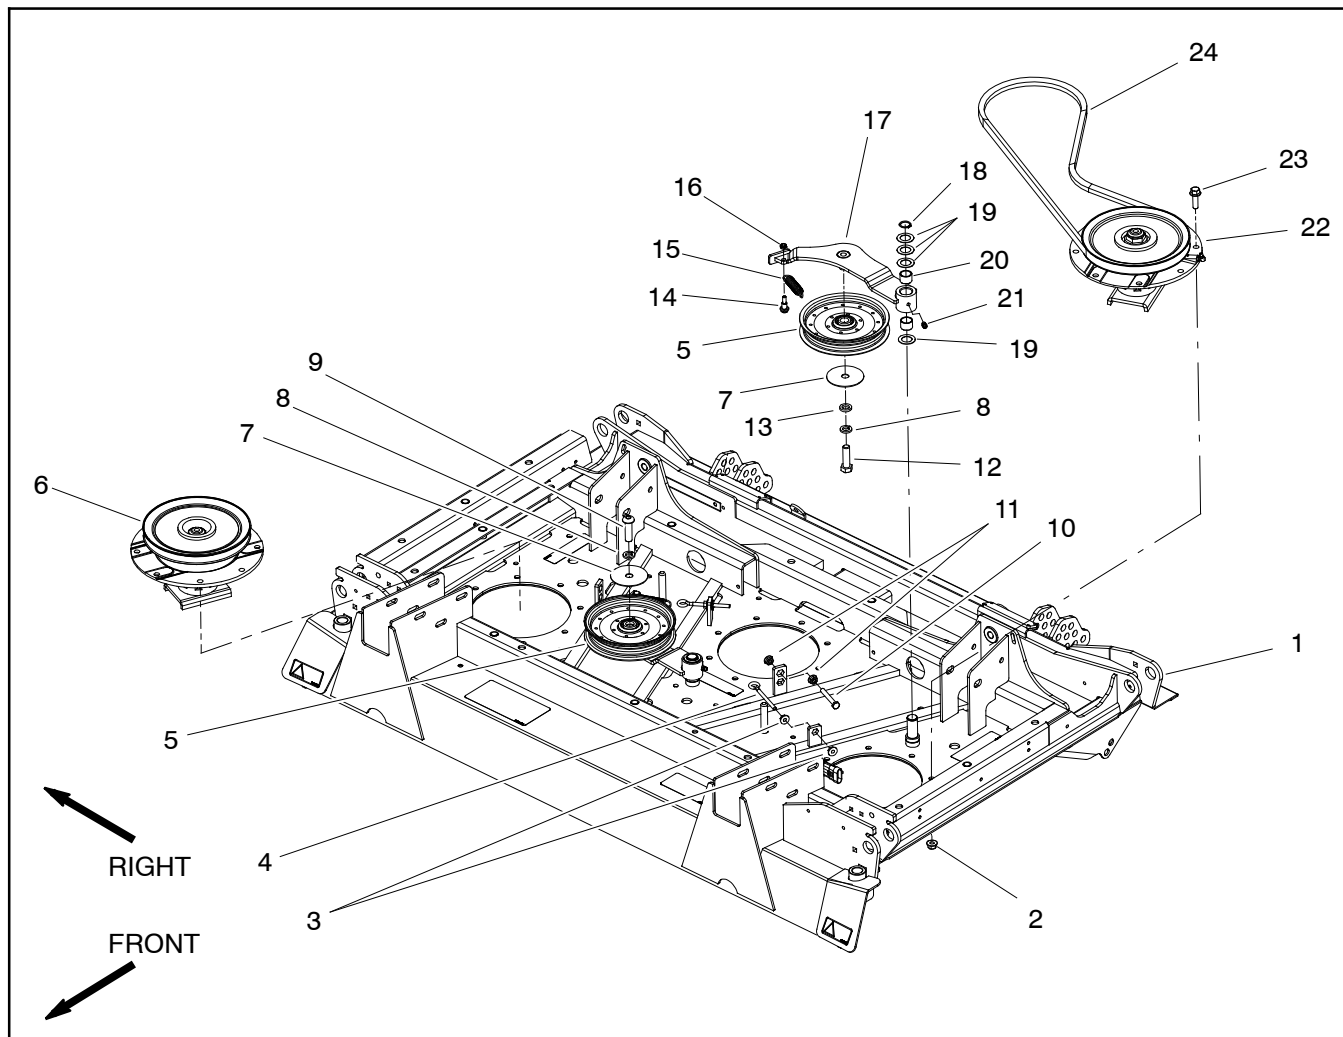
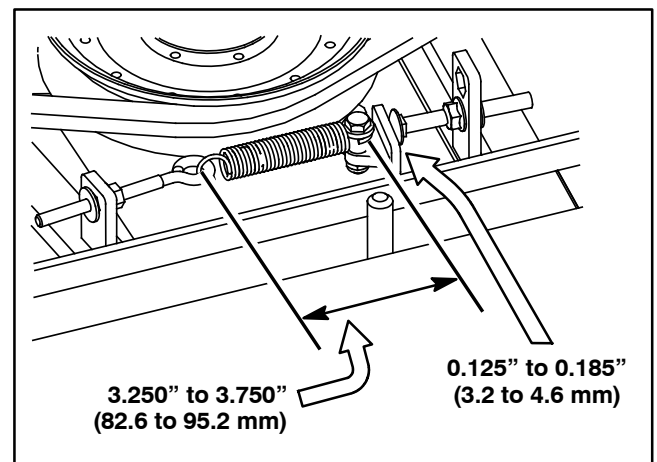

Figure 20
Figure 21
NOTE: The center deck is shown in Figure 20. The idler assemblies used on the wing decks use the same idler components.
Removal (Fig. 20)
3. Use spring hook tool to unhook the idler spring (item 15) from the adjusting screw (item 4).
5. Loosen flange nuts (item 11) that secure idler stop bolt (item 10) to cutting deck to allow clearance between idler arm and stop bolt.
6. Remove idler components as needed using Figure 20 as a guide. Note location of washers, idler spacer and screw as idler assemblies are being removed.
Installation (Fig. 20)
1. Install removed idler components using Figure 20 as a guide.
- A. Make sure that one (1) thrust washer (item 19) is placed below the idler arm and three (3) thrust washers are placed between the idler and retaining ring location.
- C. If idler stop bolt (item 10) was removed from deck, make sure that it is installed in the hole that allows the stop bolt head to align with the idler arm.
3. Use spring hook tool to attach the idler spring (item 15) onto the adjusting screw (item 4) and shoulder bolt on idler arm. With the idler arm tensioning the drive belt, the spring hook to hook length should be from **3.250" to 3.750" (82.6 to 95.2 mm)** (Fig. 21). If necessary, disconnect spring and change position of adjusting screw. When idler spring is the correct length, tighten second flange nut to secure adjustment.
4. Adjust location of idler stop bolt (item 10) so that the clearance between idler arm and idler stop bolt head is from **0.125" to 0.185" (3.2 to 4.6 mm)** (Fig. 21).